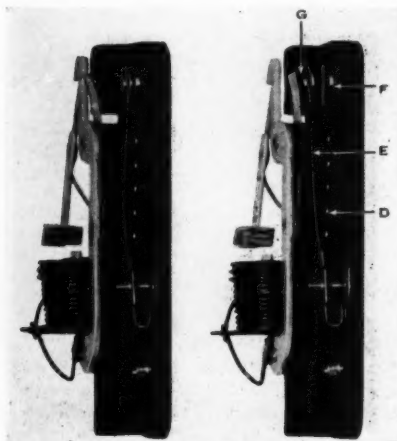

Fig. 6—Showing operation of overload
If the load on the motor becomes excessive, the heater coil (D) (Fig. 6) causes the bi-metal strip (E) to move towards the small magnet (F). As the bi-metal strip is pulled against the magnet the main circuit is broken at contacts (G).